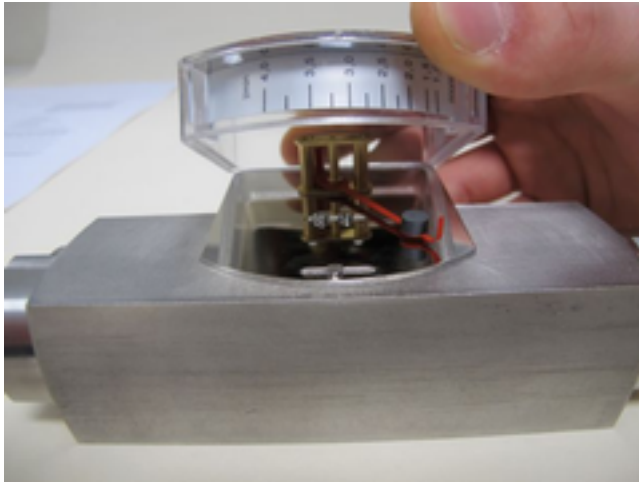

Fig. 44: Display housing Remove
- 2.** → Carefully remove the display cover plate along with the plastic housing from the base plate. Make sure that the movement is not damaged. (Fig. 44)